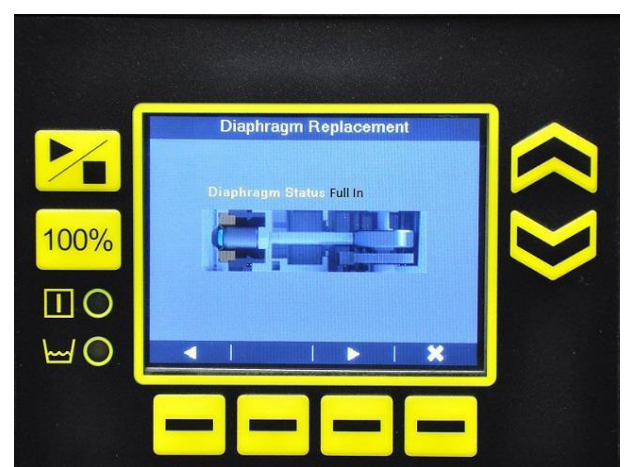

Figure 33: Diaphragm Replacement (Full In)
12. Press **Right**  to fully retract the diaphragm to the full in position (Figure 33).